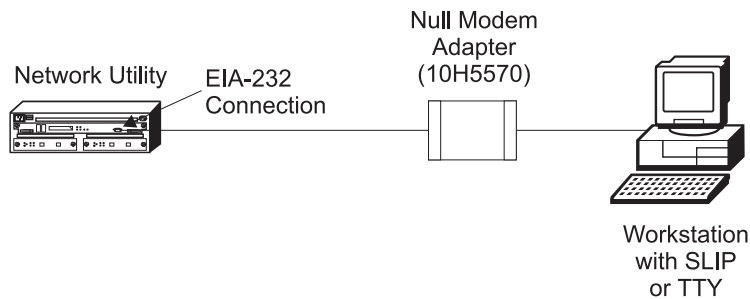
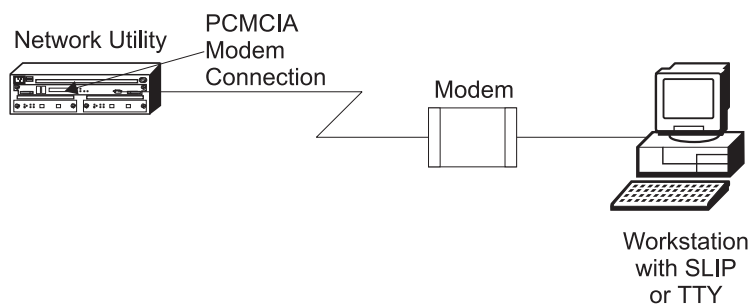

Figure 2-1. Local Workstation Serial Connection to the EIA 232 Port
Figure 2-2. Remote Serial Connection to the PCMCIA Modem
- Local connection through a null-modem cable attached to the EIA 232 service port (see Figure 2-1 on page 2-2). This type of connection uses the null-modem adapter and the two 9-to-25 pin serial cables that are supplied with this product.
- Remote dial-in (using telephone lines) through the PCMCIA modem (see Figure 2-2 on page 2-2).
- **If you are a new user and are physically adjacent to the Network Utility**, attach a workstation directly to the unit (see Figure 2-1 on page 2-2) using ASCII terminal emulation for your terminal console (see “ASCII Terminal Setup and Usage”). The key advantages of this method are:
Attach an ASCII terminal or emulator (with the appropriate emulation software) to provide local or remote access as shown in Figure 2-2 on page 2-2 and Figure 2-1 on page 2-2. DEC VT100 and DEC VT220 ASCII terminals are supported, as well as devices such as personal computer systems that are configured to emulate them.